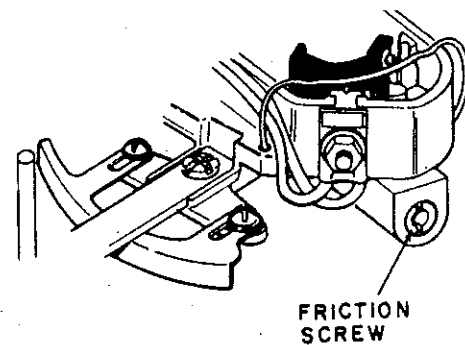

Figure 19
- C. Tighten the friction screw to 5-8 in.-lbs. (0.56-0.90 Nm) torque for twist grip models; 12-15 in.-lbs. (1.36-1.69 Nm) torque for other models. (See Figure 19.)